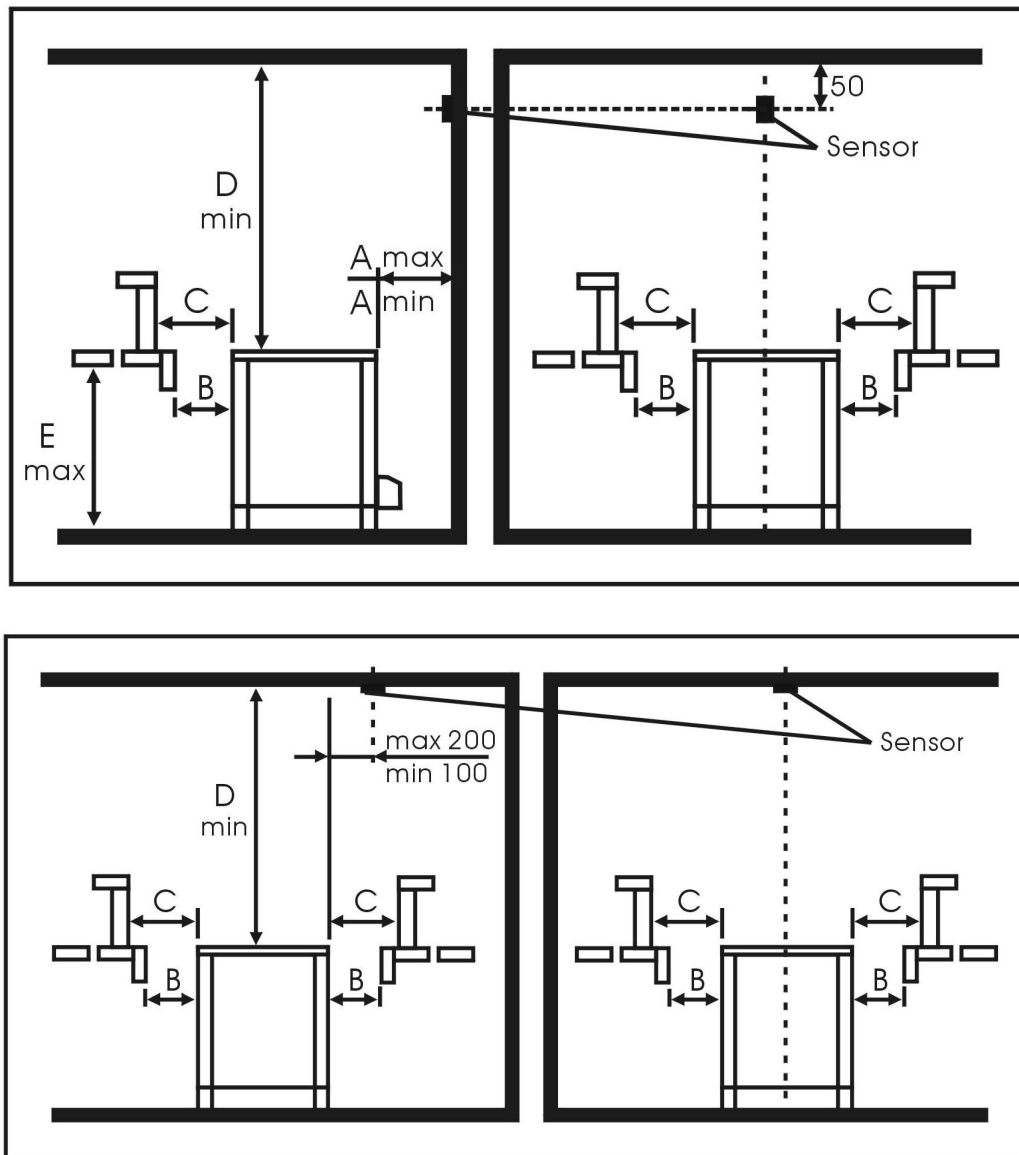

Figure 3 The location of heater
- ◆ The location of the heater should fulfil the minimum requirements concerning the distances given in below figure 3 & table 2.
- ◆ The heater gets very hot when working, to avoid the risk of accidental contact with the heater, it is recommended that a heater guard to be provided. The guard could be made into many kinds of patterns in accordance with the location place, but some size must be made as figure 3 & table 2.